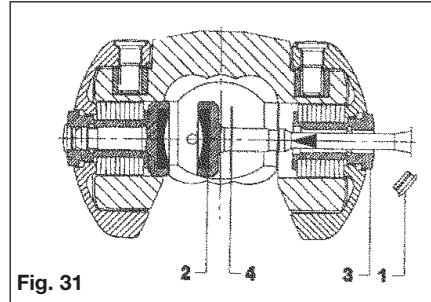

Fig. 31
- Remove protective caps (Fig. 31/Item 1) with the aid of a small screwdriver.
- Press worn out pad inwards and remove (use punch and hammer) (Fig. 31/2)
- Insert new friction pad from below (after first re-inserting shim washers if they were present) and press in as far as it will go (Fig. 31/Item 4 & Fig. 32).